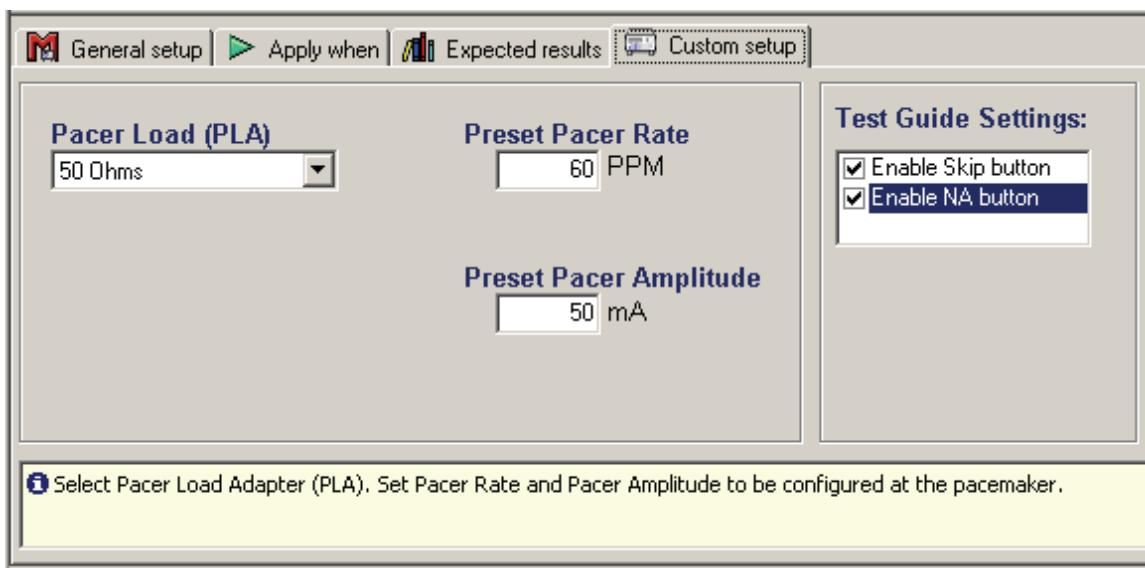

Figure 4-6. Custom Setup Page for Pacer Parameter Test Element
- Click the **Custom setup** tab to view and define the parameters used in tests. Test elements have unique custom setups for the capabilities they provide. An example is shown in Figure 4-6.